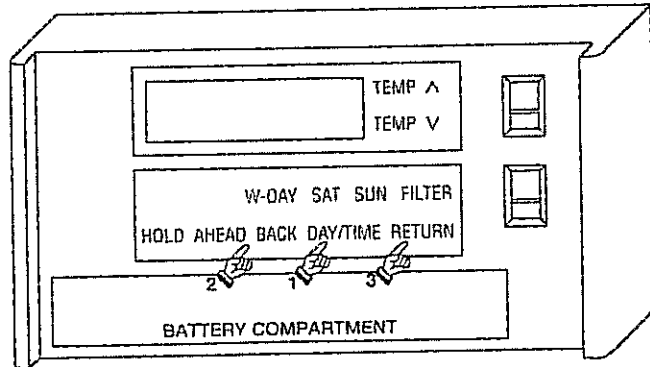

FIGURE 15
- Install two new "AA" size alkaline batteries in the battery compartment. Observe the polarity marking shown in the compartment. See figure 15.